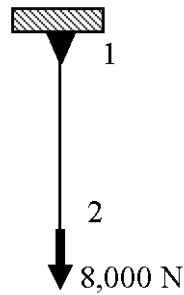

Figure 5
- a) Calculate the stiffness matrix for the structure shown in Figure 5. The bar is vertical. (6 marks)